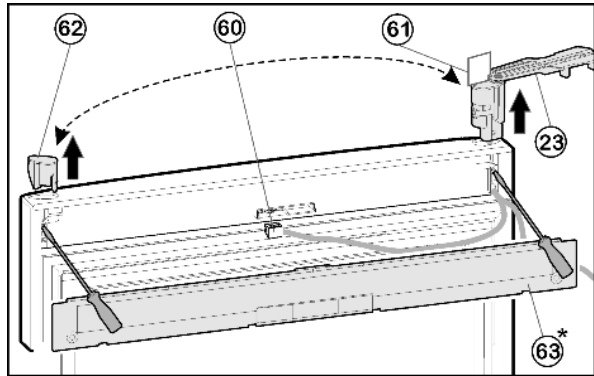

Fig. 21
- ▶ Using a screwdriver, disengage the cover *Fig. 21 (63)* on the door.
- ▶ Disconnect the plug connector *Fig. 21 (60)*.
- ▶ At the upper door, rotate the turn hinge *Fig. 21 (23)* in an outward direction, parallel to the door edge.
- ▶ Using a screwdriver, push out the turn hinge *Fig. 21 (23)* from underneath and remove it from the door complete with cable.
- ▶ Using a screwdriver, push out the stopper *Fig. 21 (62)* from underneath and transfer it to the opposite side.
- ▶ Feed in the cable of the turn hinge *Fig. 21 (23)* at the opposite side and insert turn hinge.
- ▶ Remove the template *Fig. 21 (61)* and fasten it in the turn hinge.
- ▶ Plug in the plug *Fig. 21 (60)*.
- ▶ Engage cover *Fig. 21 (63)* on the door.